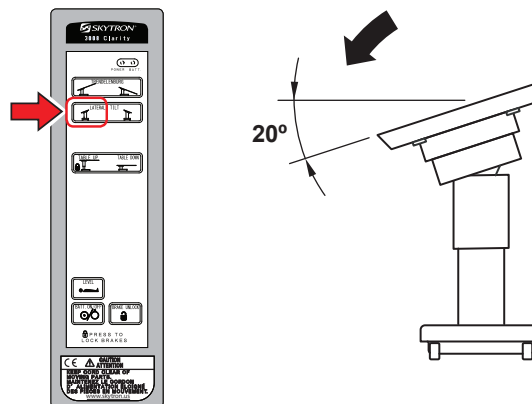

Figure 23. Normal Left Down
1. Press the Left Down button  on the pendant control (Figure 23). The table top will move to the left down position as viewed from end opposite the back pack.